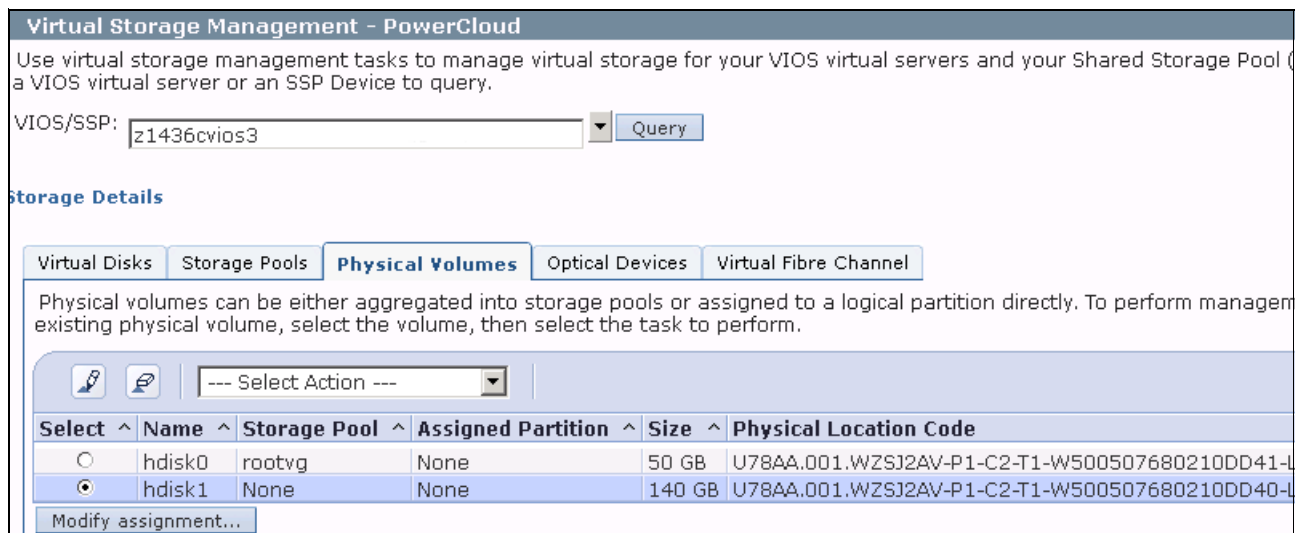
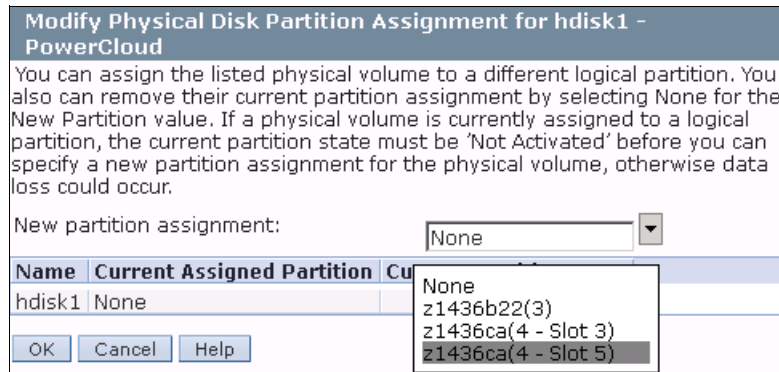

Figure 3-11 VIOS virtual storage management
Figure 3-12 Selecting partition and slot ID for disk
- The result is displayed as shown in Figure 3-11. In the first tab (Virtual Disks), virtual disks can be created and mapped to the client partitions. This creates files in the VIOS that serve as disk units, which are comparable to mounting storage by using a Network Server Description (NWSA).
- In the Modify Physical Disk Partition Assignment window, select the partition and adapter ID, as shown in Figure 3-12. Click **OK**. Disks can be added to partitions when they are active, but can be removed only from partitions that are inactive. The Assigned Partition column in Figure 3-11 changes to the partition name and slot ID that is selected.